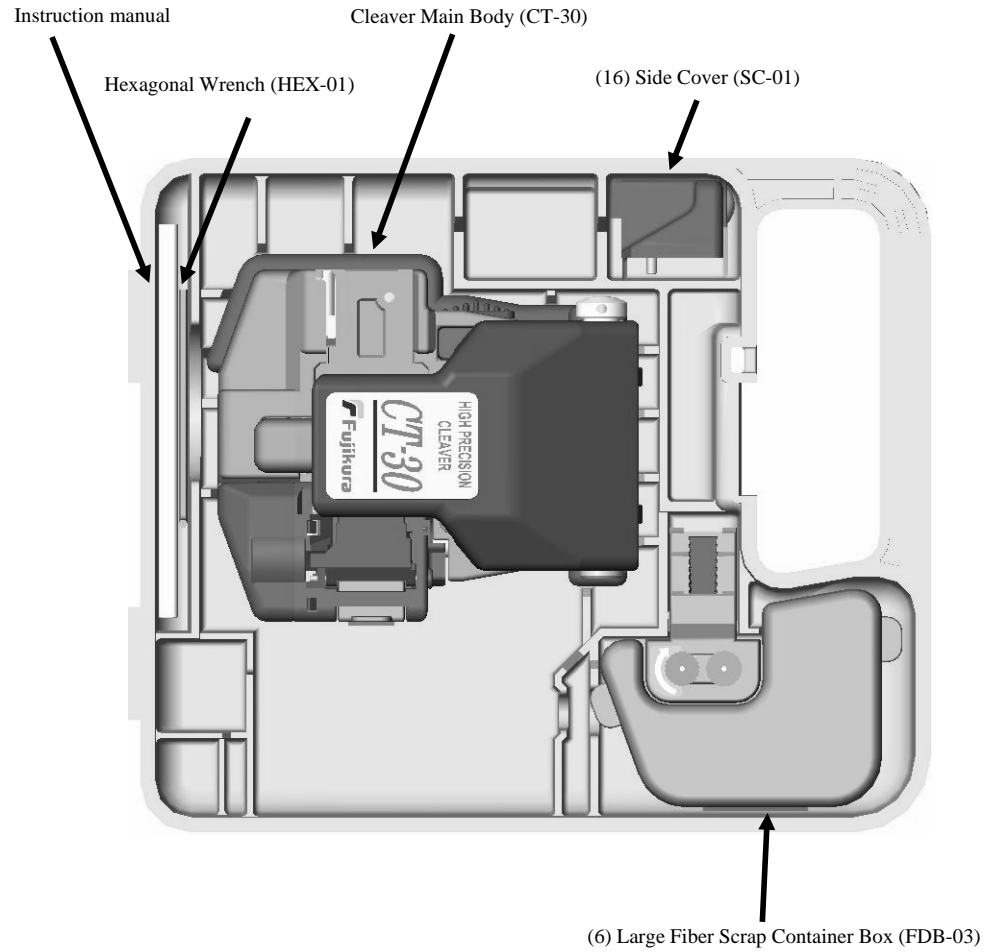

Fig.4
See Fig.4 for top view in the carrying case of the main body with the small fiber scrap container box (5).